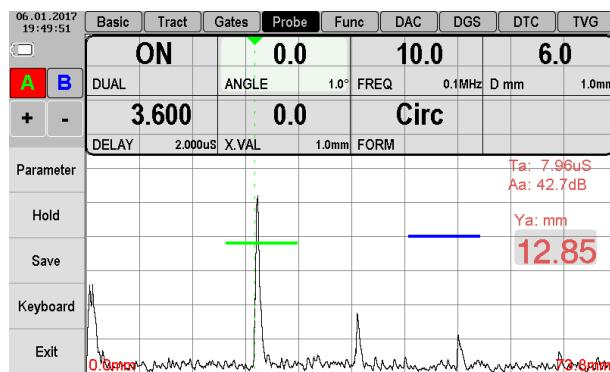

Figure 2.18 – Setting entry angle of UT waves - «ANGLE» parameter
4. Entry angle of UT waves «ANGLE». For straight beam probe angle is equal 0 (Figure 2.18). In dependence with material of tested object, entry angle of UT waves can be changed. Angle could be determined by means of standard calibration block, made from the same material as tested object, see paragraph about calibration (2.5.3).